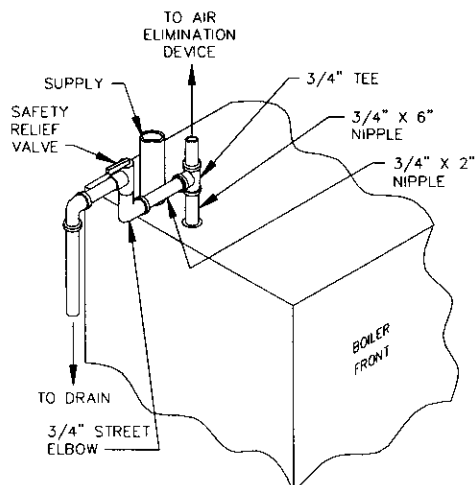

Figure 8: Safety Relief Valve Hook-Up with Air Elimination
3. For air elimination at the safety relief valve tapping, install valve and piping as shown in Figure 8.